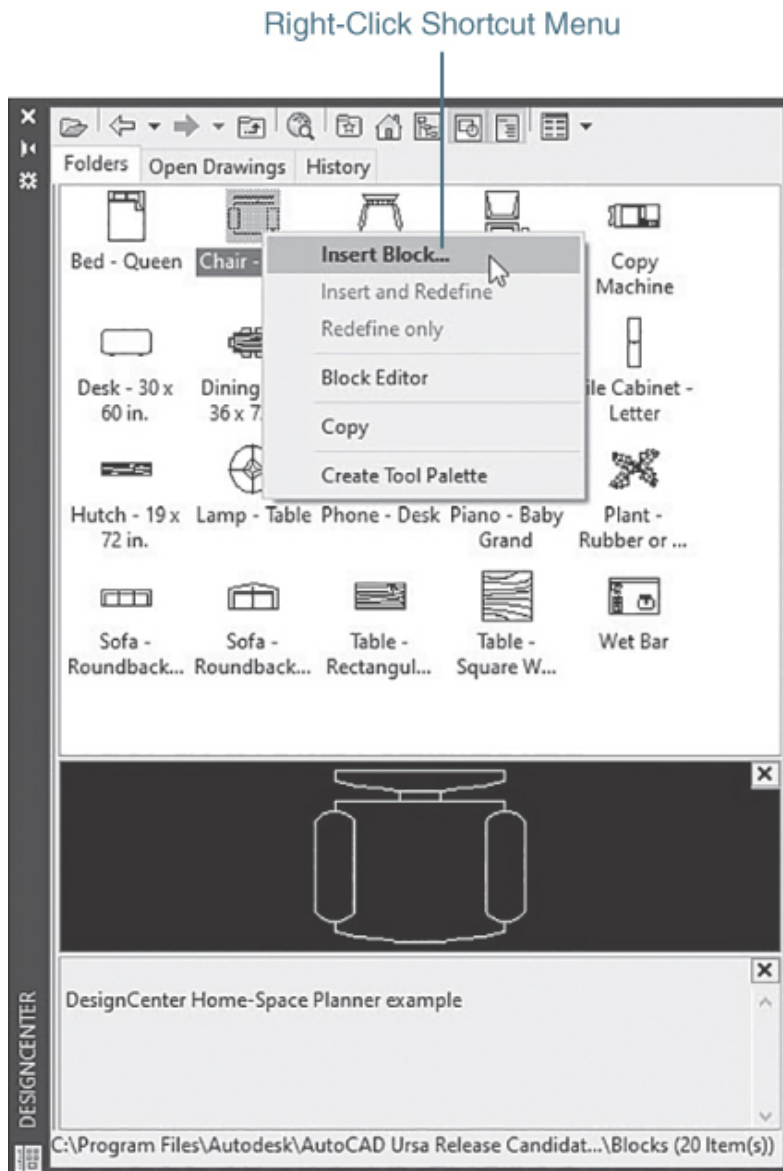

Figure 16-58
Right-clicking on a block icon displays the shortcut menu shown in Figure 16-58 so that you can do the following:
- Right-click on the block in the content area to display the shortcut menu shown in Figure 16-58.